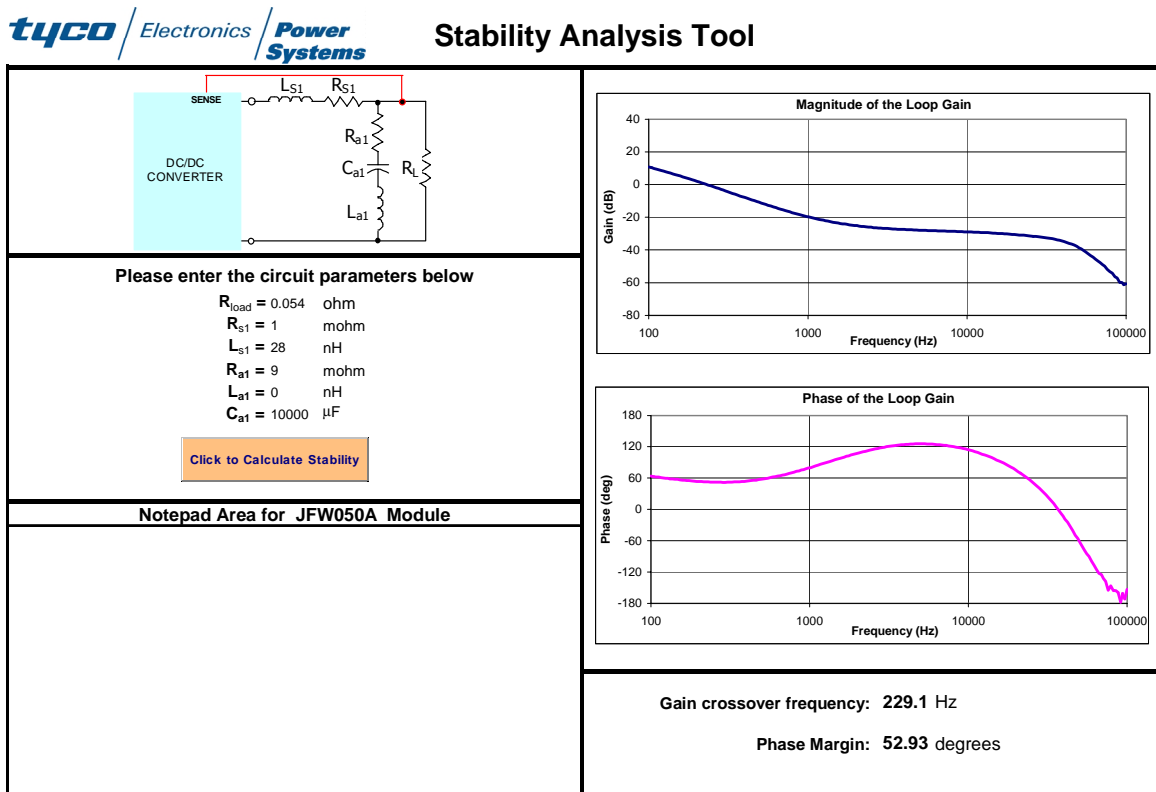

Fig. 7. Stability analysis of the JFW050A for Configuration 2.
- To investigate a different configuration, click on the *Configuration Menu* tab at the bottom of the Excel worksheet which will take you back to the configuration-selection page. If you click on the circuit diagram for Configuration 2, the page for that configuration will appear in the window and the Configuration 4 page will disappear (Figure 7). You can now repeat the analysis in a manner similar to the previous case. There is no need to re-load the module data file for JFW050A to perform an analysis for another configuration.